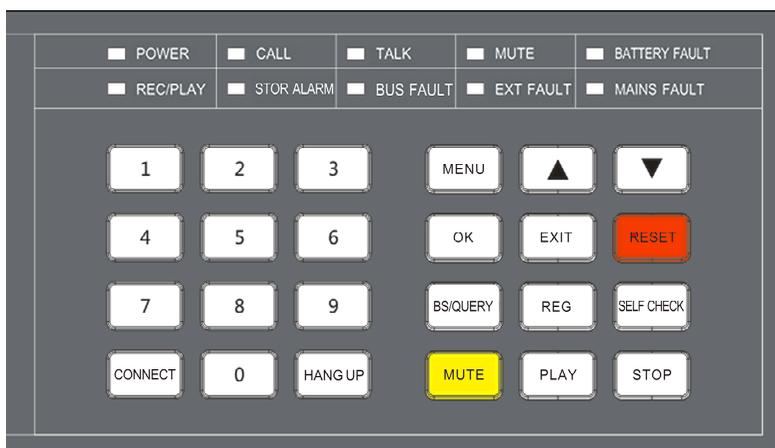

Fig. 2 Functional keys and indicators
2.1.1 Description of functional keys and indicators (see Fig. 2 and Table 2)